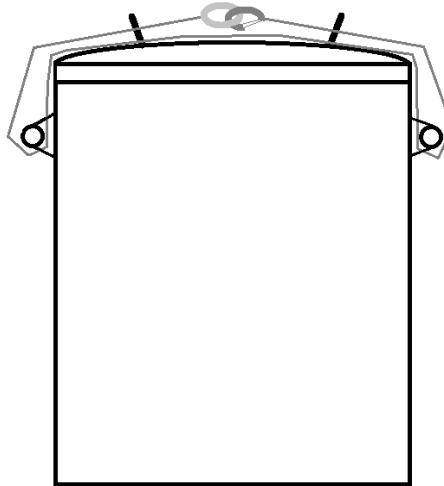

Figure 18: Security Cable Installation
- Loop the safety cable through both lid handles and through the handles on both sides of the vessel and then back through the lid handles so the two ends meet then secure the two ends together (See Figure 18)